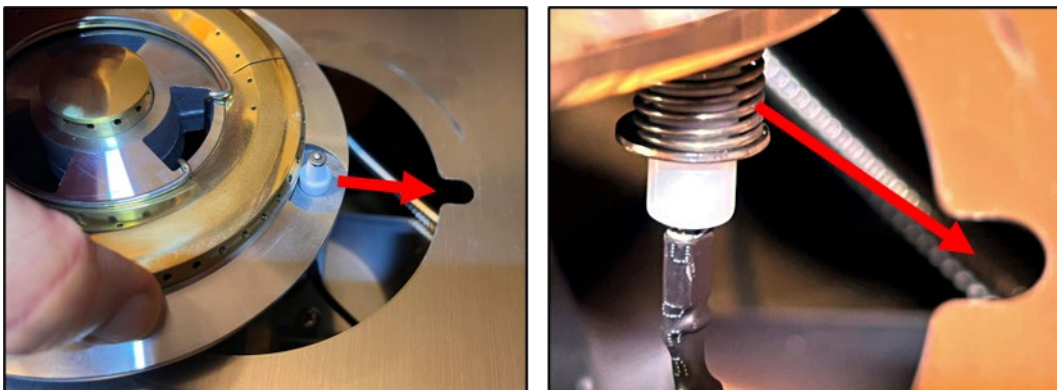

Figure 23 Replace Burner
- a. Insert with igniter plug toward the slot as shown in Figure 23 (left)